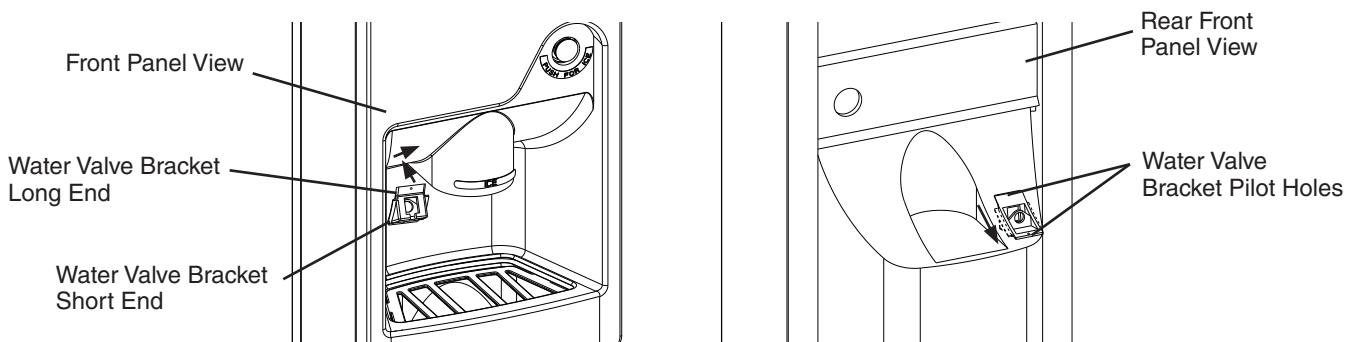

Fig. 4
- 8) Place the water valve bracket provided in this kit, in its correct position as follows: insert the water valve bracket up into the cutout area from the front of the front panel with the water valve bracket long end first. See Fig. 4. Next, slide it up and toward the front and press the water valve bracket shorter end up into the cutout area. Next, slide the water valve bracket down to the bottom of the cutout area until it fully seats at the lower end of the cutout area. Once the water valve is correctly seated, using the pilot holes on the mounting bracket drill two 1/8" (3 mm) holes.